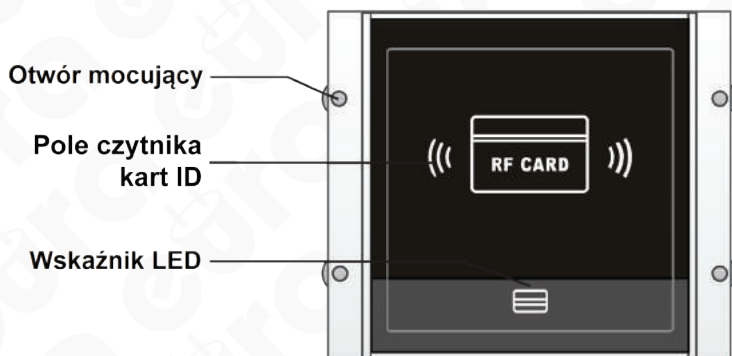

Fig. 30. External structure of the VXA-63A5 proximity card reader module
7.4.1. Construction description of the VXA-63A5 proximity card reader module The structure of the proximity card reader module along with the arrangement of all external elements is shown in Fig. 30.